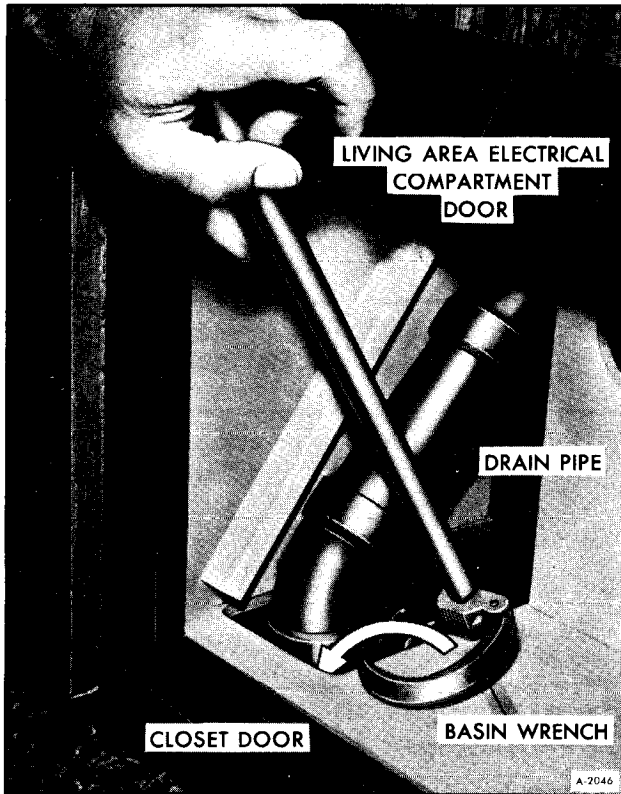

Figure 3-Loosening Pipe Fitting-Model 260
8. On Model 260, remove the drain pipe access cover inside the storage compartment below the Living Area Electrical Compartment then use a basin wrench as shown in Figure 3 to loosen pipe fitting from tank.
1. Position holding tank and secure with two mounting brackets. On Model 230 torque nuts to 95-145 in.-lbs. On Model 260 install nuts and tighten with fingers. Tighten pipe connector into tank, using a basin wrench as shown in Figure 3. Install and secure drain pipe cover with three (3) screws. Torque holding tank bracket nuts to 95-145 in. lbs.